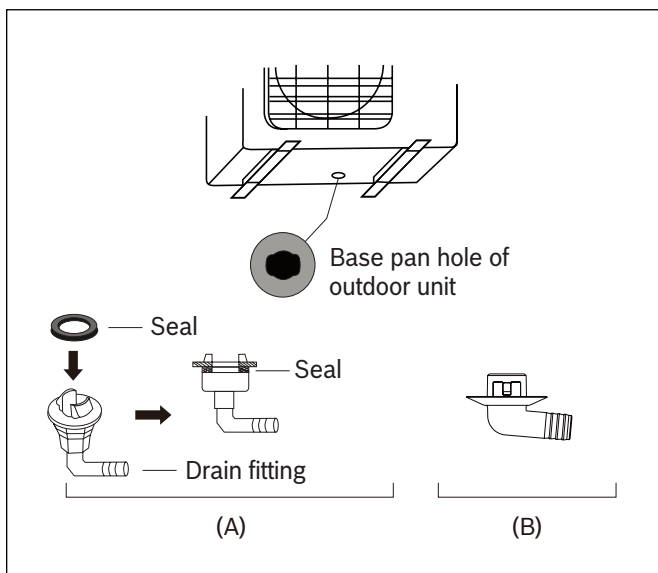

Figure 25
If the drain fitting comes with a rubber seal (see Figure 25, pos. A), do the following:
If the drain fitting doesn't come with a rubber seal (see Figure 25, pos. B), do the following:
3. Make sure that the pipe is cut at a perfect 90° angle. Refer to Fig.25 for cut examples.